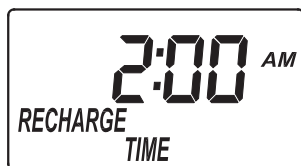

FIG. 18
1. If you completed the previous step, the words "RECHARGE TIME" should show in the display (See Figure 18). Otherwise, press the SELECT button several times until they do.